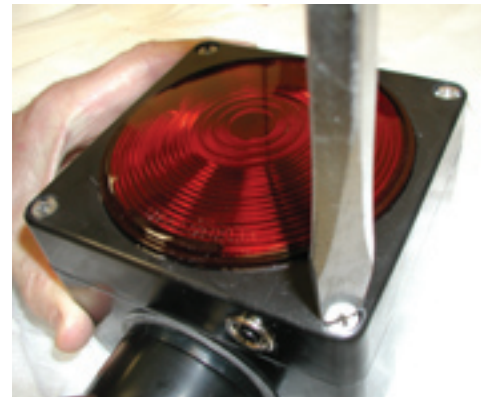

Figure 6. Tightening the screws
- Tighten the four screws evenly to insure a tight gasket seal within the lid (see Figure 6).